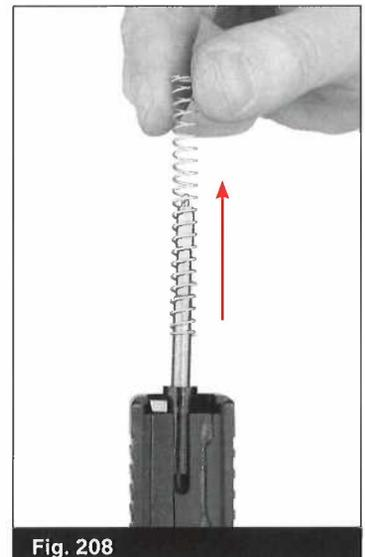

Fig. 208
- Take the spring off the firing pin. (Fig. 208)